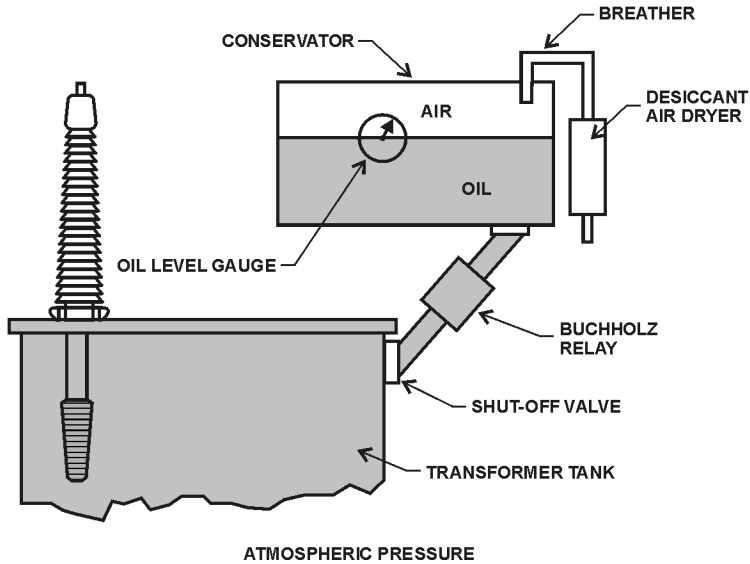
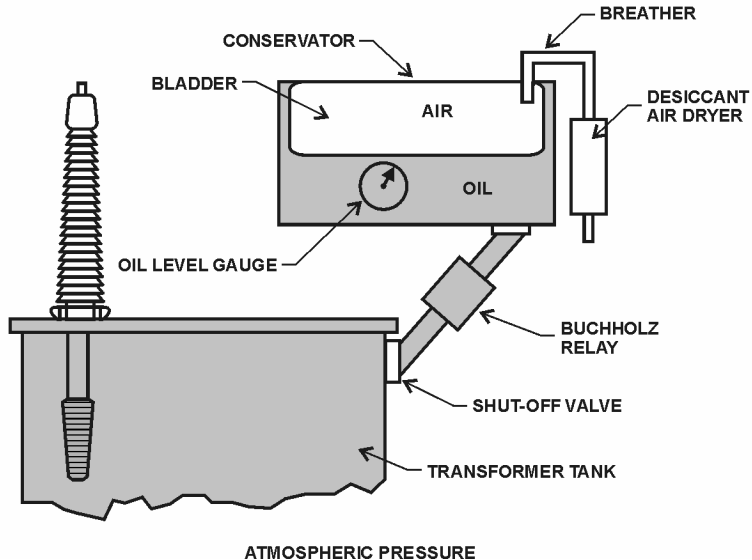

Figure 38 – Free Breathing Conservator.
Figure 39 – Conservator with Bladder.
4.9.2.8 Free Breathing Conservator – This design adds an expansion tank (conservator) above the transformer so that the main tank may be completely filled with oil (figure 38). Oil expansion and air exchange with the atmosphere (breathing) occur away from the oil in the transformer. This design reduces oxygen and moisture
4.9.2.9 Conservator with Bladder or Diaphragm Design – A conservator with bladder or diaphragm (figure 39) is similar to the design in figure 38 with an added air bladder (balloon) or flat diaphragm in the conservator. The bladder or diaphragm expands and contracts with the oil and isolates it from the atmosphere. The inside of the bladder or top of the diaphragm is open to atmospheric pressure through a desiccant air dryer. As oil expands and contracts and as